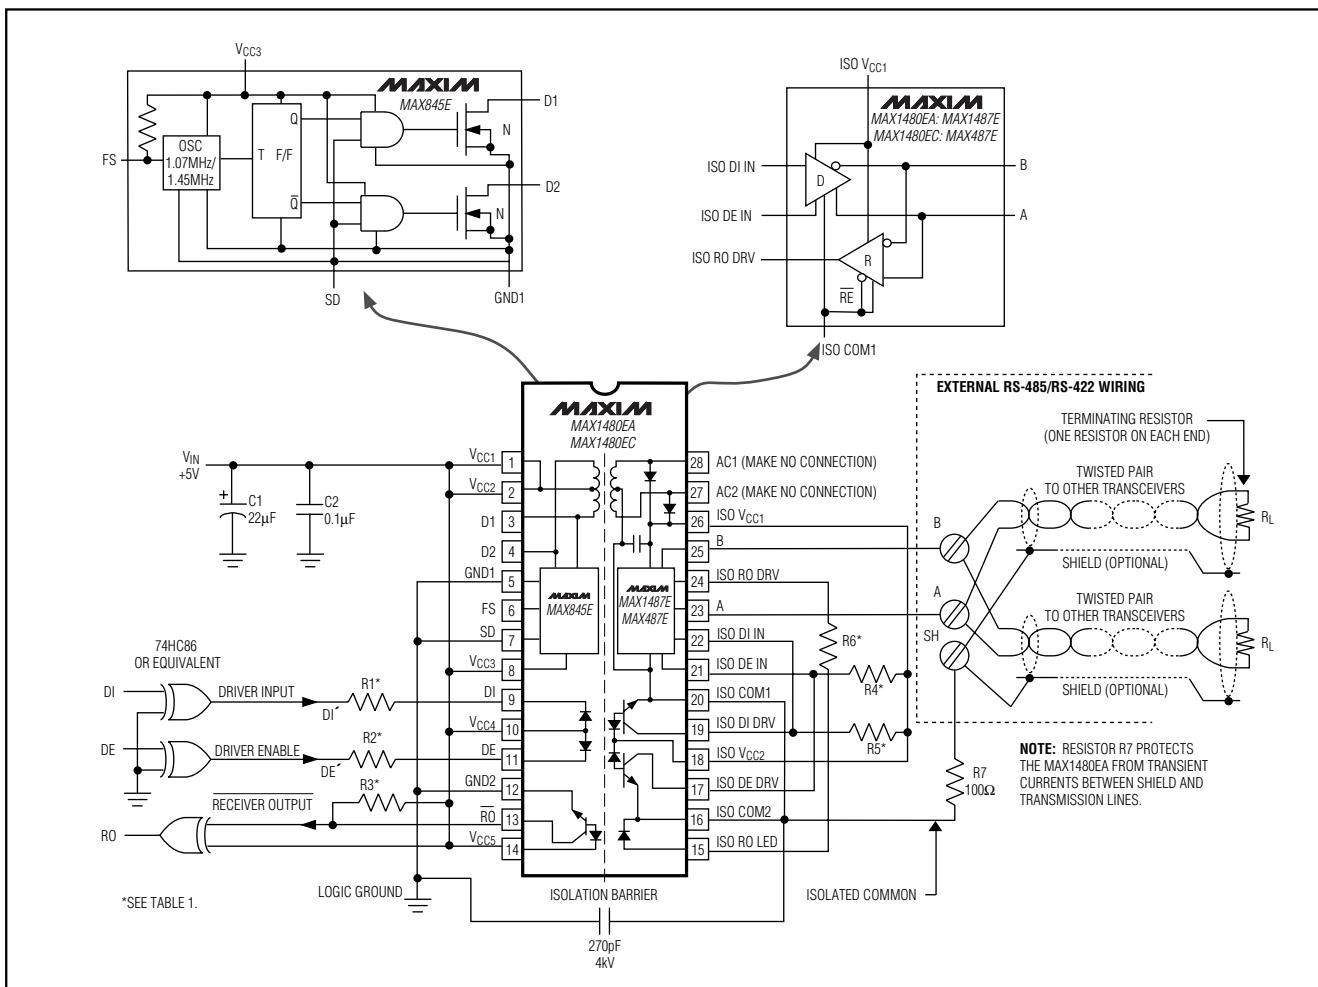
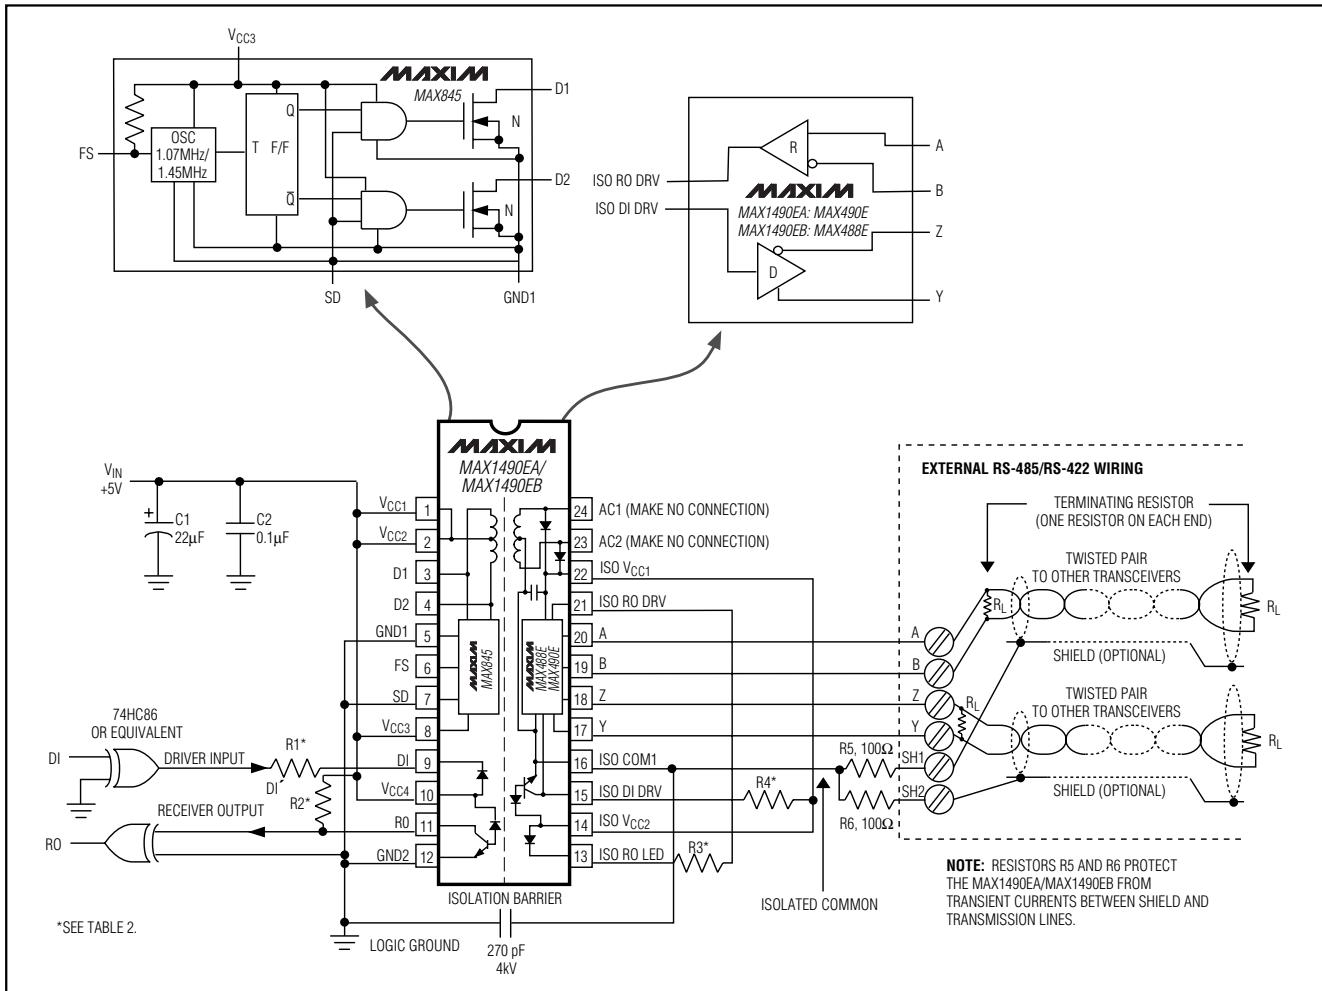

Figure 1. MAX1480EA/MAX1480EC Detailed Block Diagram and Application Circuit
Figure 2. MAX1490EA/MAX1490EB Detailed Block Diagram and Typical Application Circuit
**Note 2:** For DE' and DI' pin descriptions, see *Detailed Block Diagram and Typical Application Circuit* (Figure 1 for MAX1480EA/MAX1480EC, Figure 2 for MAX1490EA/MAX1490EB).
( $V_{CC\_} = +5V$ ,  $V_{FS} = V_{CC\_}$ , Figures 1 and 2,  $T_A = +25^{\circ}C$ , unless otherwise noted.)
( $V_{CC\_} = +5V$ ,  $V_{FS} = V_{CC\_}$ , Figures 1 and 2,  $T_A = +25^\circ C$ , unless otherwise noted.)
( $V_{CC\_} = +5V$ ,  $V_{FS} = V_{CC\_}$ ,  $V_{DI'} = 0$ ,  $DE'$  toggled 0 to 5V at 5kHz, Figures 1 and 2,  $T_A = +25^\circ C$ , unless otherwise noted.)
**Note:** For DE' and DI' pin descriptions, see *Detailed Block Diagram and Typical Application Circuit* (Figure 1 for MAX1480EA/MAX1480EC, Figure 2 for MAX1490EA/MAX1490EB).
The MAX1480EA/MAX1480EC/MAX1490EA/MAX1490EB are complete, electrically isolated, RS-485/RS-422 data-communications interface solutions. Transceivers, optocouplers, a power driver, and a transformer in one standard 28-pin DIP package (24-pin package for the MAX1490EA/MAX1490EB) provide a complete interface. Signals and power are internally transported across the isolation barrier (Figures 1, 2). Power is transferred from the logic side (nonisolated side) to the isolated side of the barrier through a center-tapped transformer. Signals cross the barrier through high-speed optocouplers. A single +5V supply on the logic side powers both sides of the interface. The MAX1480EA/MAX1480EC offer half-duplex communications while the MAX1490EA/MAX1490EB feature full-duplex communication. The functional input/output relationships are shown in Tables 3 through 6.
**Table 1. Pullup and LED Drive Resistors for Figure 1**
**Table 2. Pullup and LED Drive Resistors for Figure 2**
\* For DE' and DI' pin descriptions, see *Detailed Block Diagram and Typical Application Circuit* (Figure 1 for MAX1480EA/MAX1480EC, Figure 2 for MAX1490EA/MAX1490EB).
The  $\pm 15kV$  ESD test specifications apply only to the A, B, Y, and Z I/O pins. The test surge may be referenced to either the ISO COM or to the nonisolated GND (Figures 1 and 2).